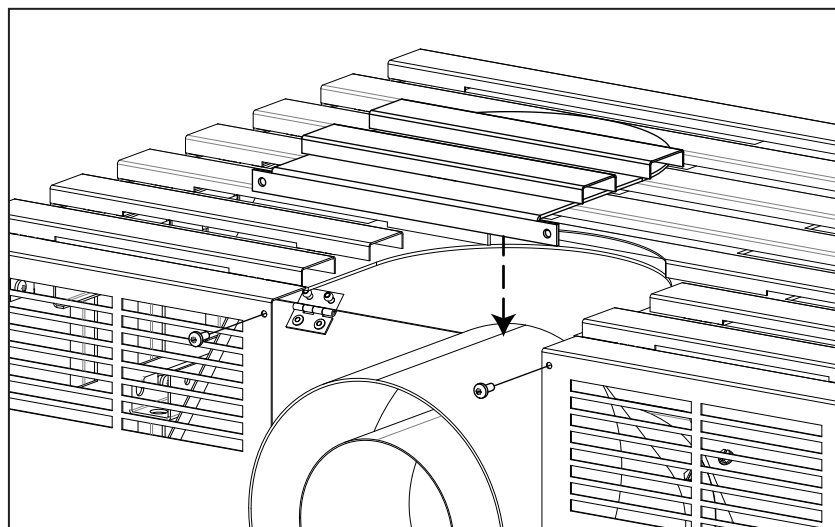

Figure 52: Top Vent Cover Plate
6. Find the rear vent cap that was included with the unit. Align the rear vent cap as shown in Figure 52 and fasten into place using two (2) #8 screws.
Note: Please refer to the chimney manufacturer's installation instructions prior to commencing the installation. This unit may be vented to an existing masonry chimney, or where no masonry chimney is available, an approved "B-vent" chimney, or any other approved constructed chimney/vent system (see Figure 52 & 53). In either case, the fireplace may be connected to the chimney/vent using a 4" (10 cm) single wall vent connector.